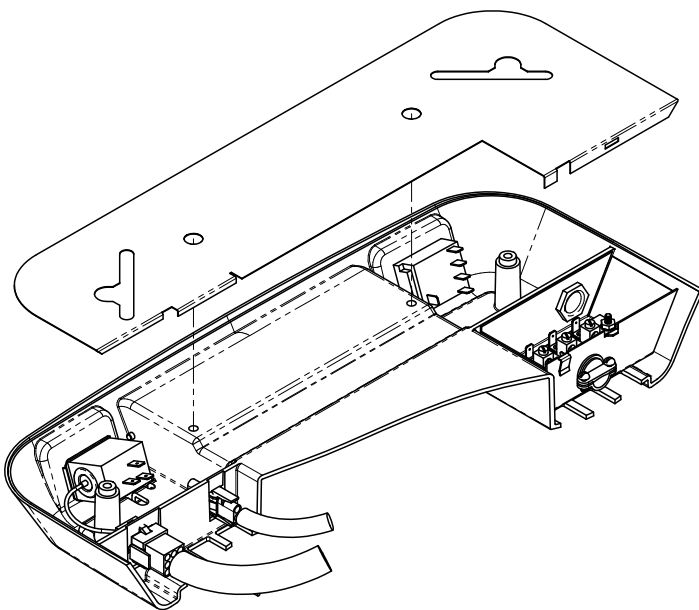

FIGURE 7
C. Plug the heater cord from the upper unit into the 2 position receptacle (See Figure 7).
- E. Plug the roof top air conditioner electrical conduit into the 9 position receptacle located in the thermostat side of the ceiling assembly (See Figure 7).
- H. Place the metal control box shield over the thermostat, switch and field wiring boxes. Make certain that all wires are pushed into the control boxes or laying in the wireway between the thermostat and switch boxes and will not be pinched by the control box shield. Control box shield is properly installed when the two holes in shield are aligned with the two screw holes in the ceiling assembly chute (See Figure 7).
- J. The ceiling assembly shroud is curved to contour to a crowned ceiling. If installation is to a flat ceiling and gaps are present on the sides of the shroud, insert the four optional 3/4 inch screws (provided) through the mounting posts and secure them to the mounting frame above (See Figure 7, 8 and 9 for screw locations).